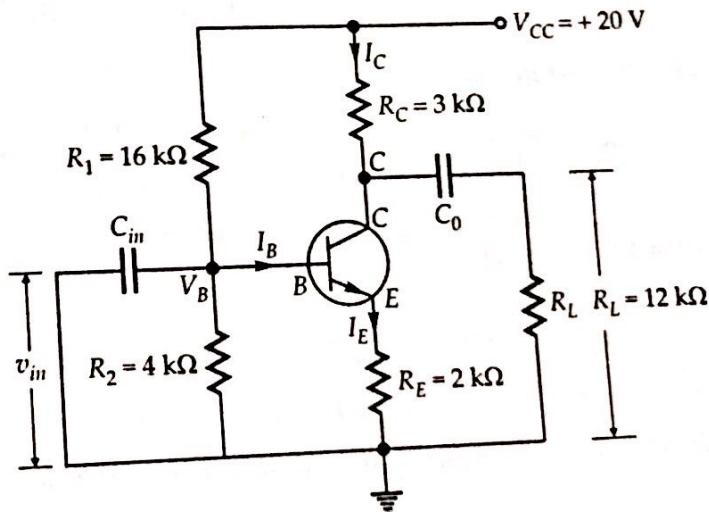

Figure 5.27
**Example 5.12** Draw the dc and ac load lines for the given CE circuit shown in Fig. 5.27. Also determine Q.